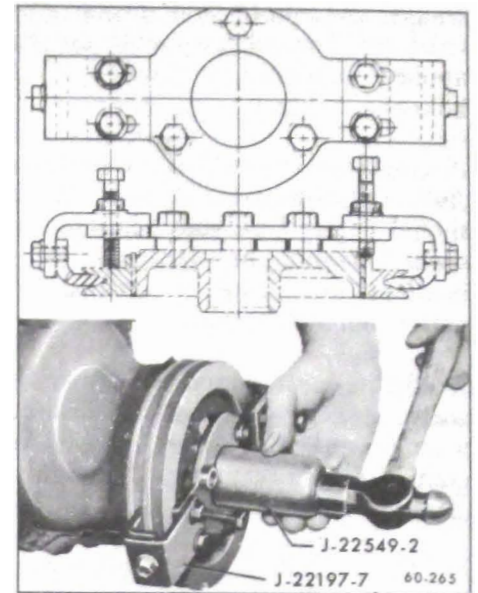

Figure 60-126 - Installing Torsional Damper
b. Attach damper Installer Tool J-22197 to damper. Tighten fingers of tool to prevent weight from moving. See Figure 60-126.